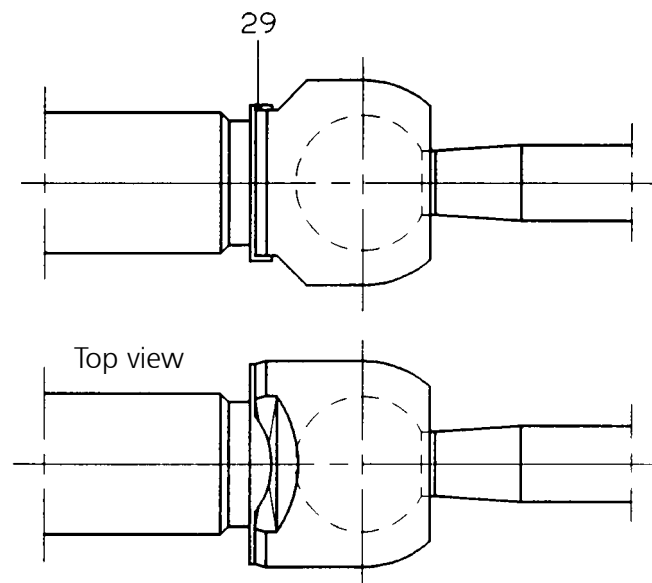

Fig. 46
At both spanner flats, bend the tab washer (29) at right angles (*Fig. 46*).